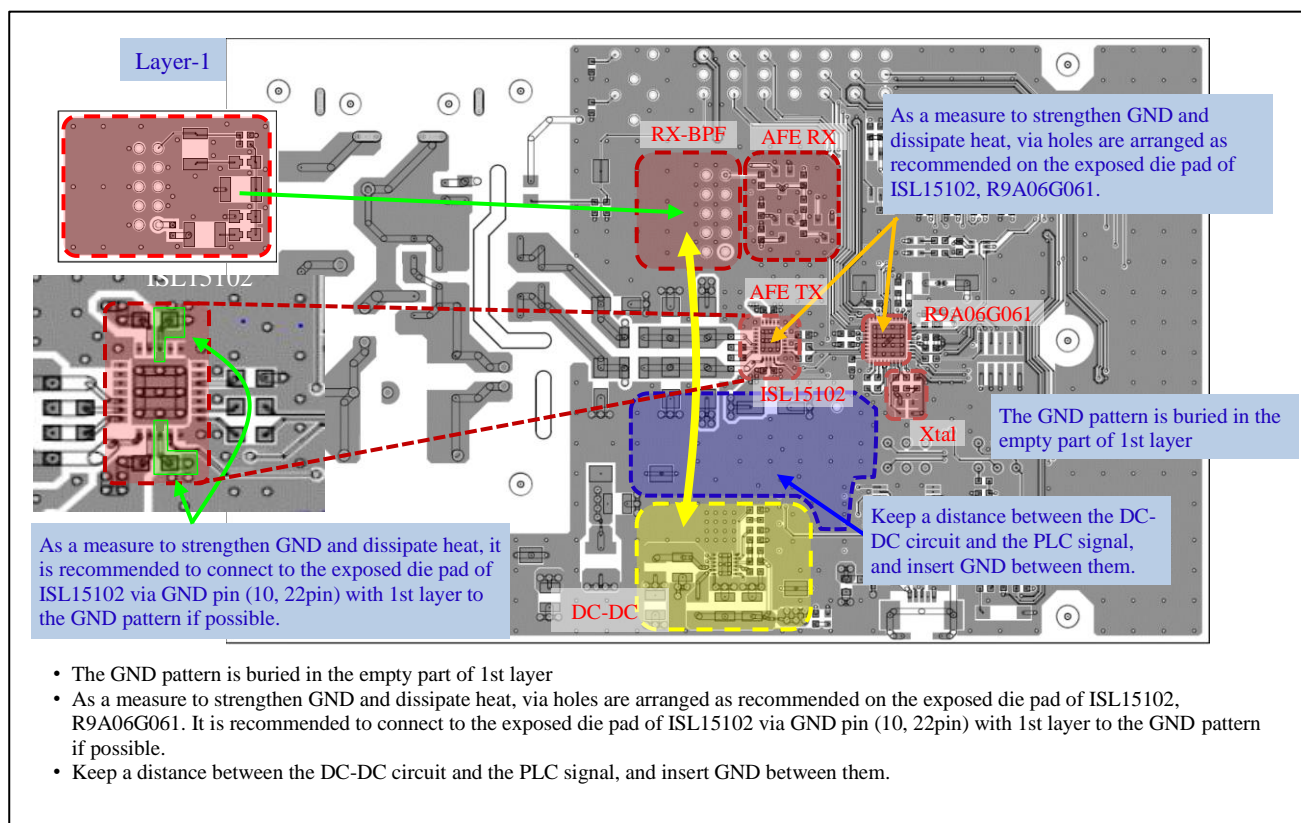

Figure 2-12 Example of connection between exposed die pad of R9A06G061 and ISL15102 and GND pattern (1st Layer)
- In the 1st layer, connect the Exposed die pad of ISL15102 to the GND plane of the first layer as much as possible to improve heat dissipation. (An example is shown in Figure 2-12.)